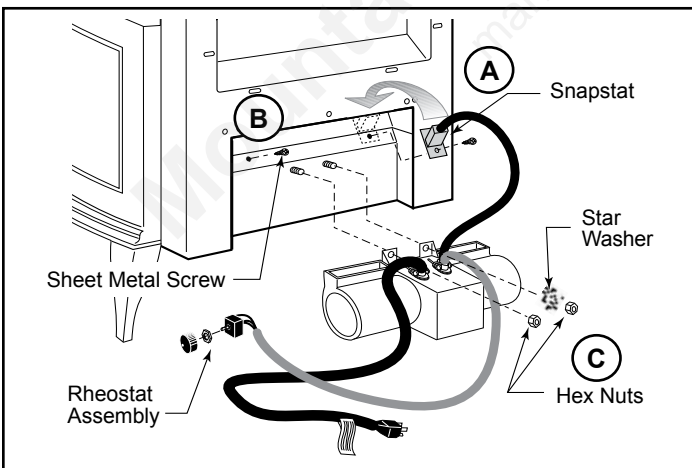

Figure 51 - Attach snapstat and fan assembly to rear shroud.
3. Insert one end of the snapstat into the seam at the lower shroud and secure it with one (1) #10 x 1/2" sheet metal screw from the parts bag. ('A', Figure 51) Use another sheet metal screw to fasten the shroud at the adjacent hole. ('B', Figure 51) Fasten the blower assembly to the studs with two (2) hex nuts previously removed and one (1) of the star washers from the Fan Kit parts bag. ('C', Figure 51)